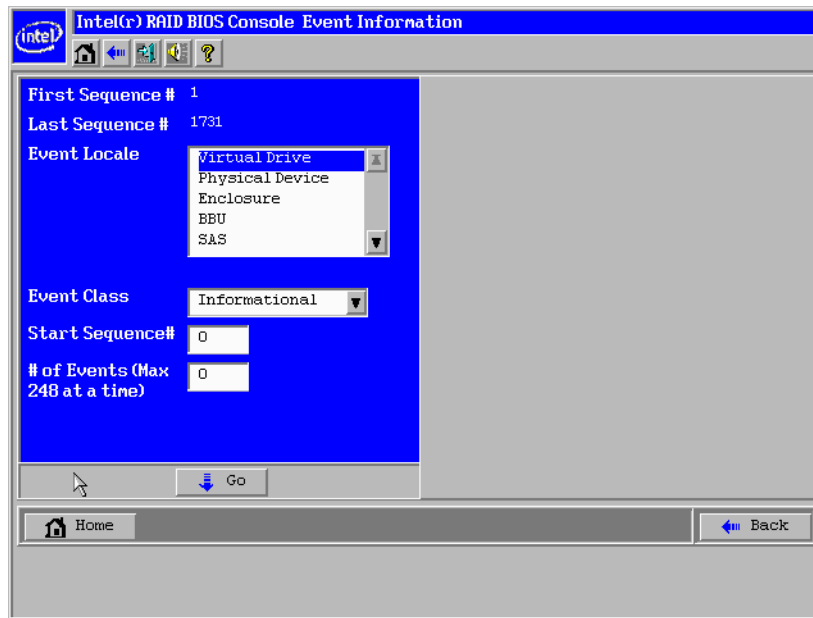

Figure 30. Intel® RAID BIOS Console 2 – event information screen
- On the main screen, select the **Events** option from the menu at the left. The Event Information screen appears (Figure 30).